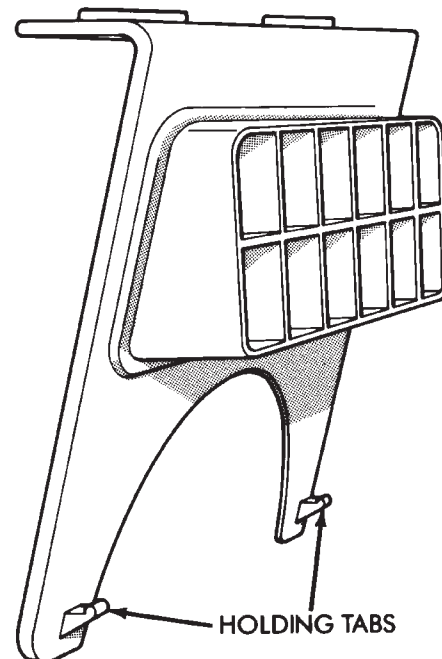

Fig. 14 Indicator Panel Holding Tabs—YJ Vehicles
- apply upward force to the I/P shroud and downward force to the indicator panel — this will release the indicator panel holding tabs (Fig. 14);
- slide the indicator panel holding tabs (Fig. 14) into the shroud notches;